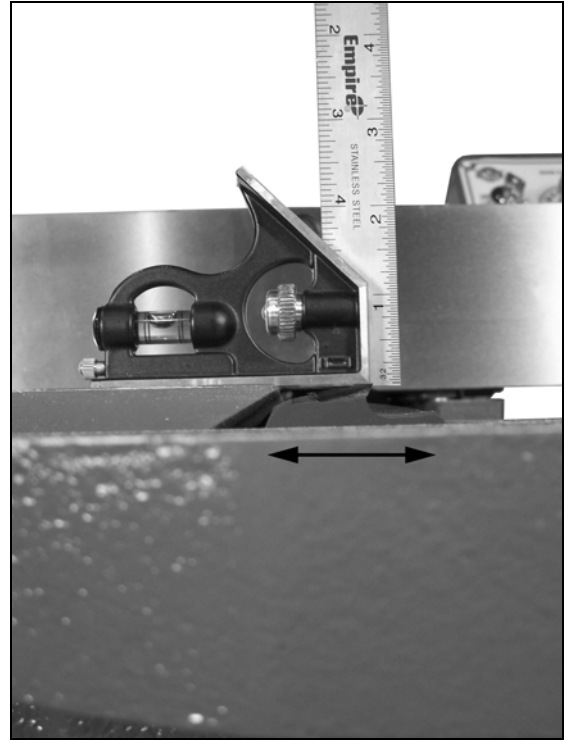
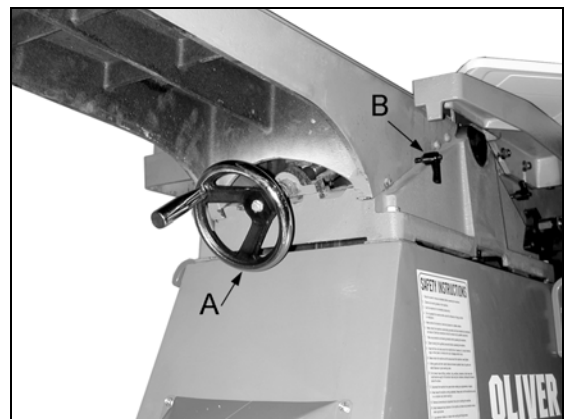

Figure 13
Figure 14
1. For proper operation the height of the outfeed table must be set to the highest point of the cutting circle. To do this, set a straight edge on the outfeed table as shown in Figure 13.
2. Carefully adjust the table height by turning the handwheel (A, Figure 14) while rocking the cutterhead back and forth as shown by the arrow in Figure 13. The table will be at it's correct height when the knife, at it's highest
3. Once set, lock into place with the height lock knob (B, Figure 14).